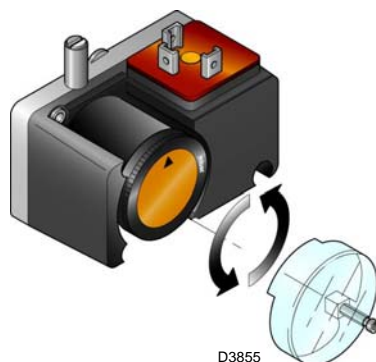

Fig. 33
- Adjust the minimum gas pressure switch (Fig. 33 at page 31) to the start of the scale.
Adjust the minimum gas pressure switch (Fig. 33) after having performed all other burner adjustments with the pressure switch set to the start of the scale.